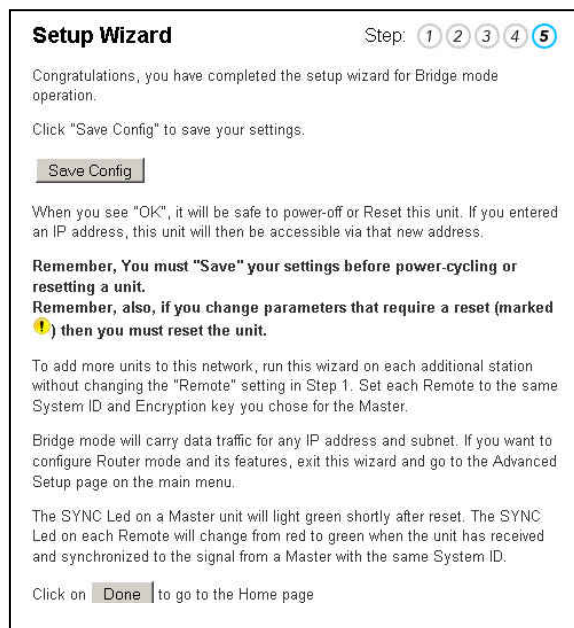

Figure 27 - Setup Wizard - Step Five (Bridge Mode)
6. On step five of the Setup Wizard, read the on-screen instructions (Figure 27).